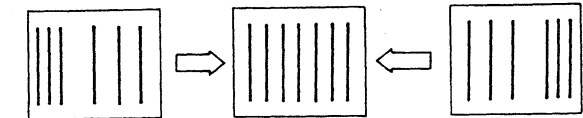

Fig. 31-7
3. Adjust the balance of H.lineality with H.L.B (RV28) on the D board as shown in Fig 31-7 "Change to horizontal".